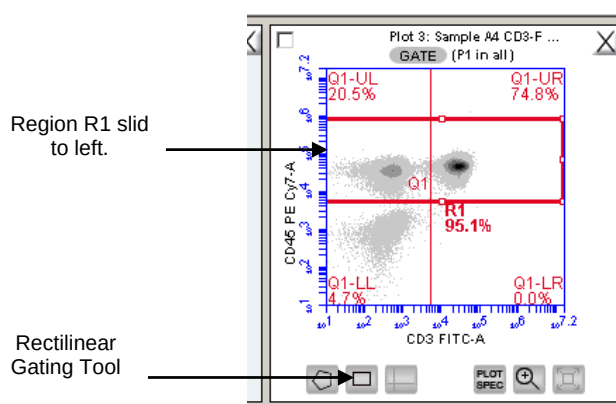

Figure 3-32 Gating region R1 has been drawn on Plot 3 to include the CD45-PE-Cy7 positive events.
1. On Plot 3 (CD3-FITC vs. CD45-PE-Cy7), select the rectilinear gating tool and draw a region, R1, that encompasses the CD45 positive events (Figure 3-32). Be sure to slide R1 off the left edge of Plot 3 to ensure that all events, including those below channel 10 on the FITC axis, are in R1.